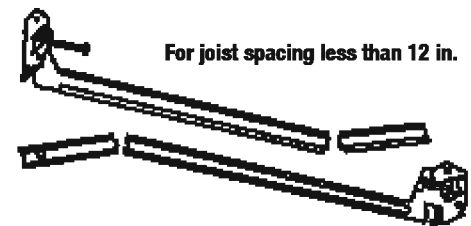

Fig. 3
2. Bar hangers may be shortened to fit 12 in. framing by breaking at score lines (Fig. 3).